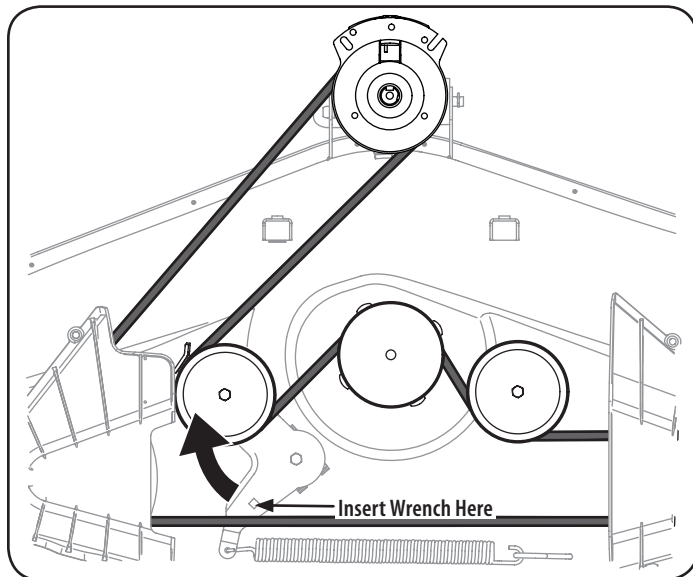

Figure 20
3. Working on the right side of the tractor, insert a $\frac{3}{8}$ " drive ratchet wrench, set to tighten, into square hole found on the idler bracket. See Figure 20.
4. Use the wrench to pivot the deck drive pulley forward. See Figure 20.